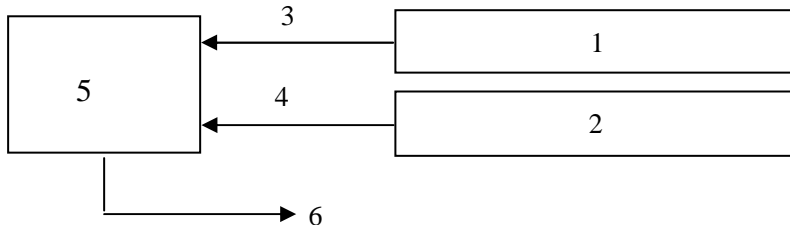

Fig. 3-5
- Installation of the centrifugal fan is shown in Fig.3-5